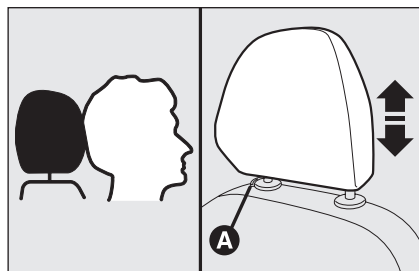

fig. 30
- ☐ to lower: press button **A**-fig. 30 and lower the head restraint.